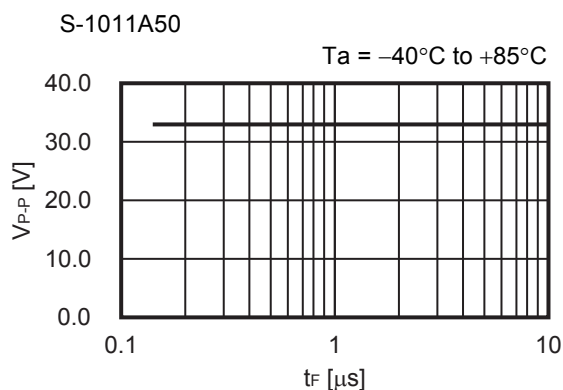

Figure 37  $C_N = 3.3 \text{ nF}$
Figure 37 and Figure 38 show the relation between  $V_{DD}$  amplitude ( $V_{P-P}$ ) and input voltage falling time ( $t_F$ ) where the arbitrarily set detection delay time accuracy can be maintained when the VDD pin (VDD detection product) sharply drops.
**Caution** Figure 37 and Figure 38 show the input voltage conditions which can maintain the detection delay time accuracy. If the voltage whose  $V_{P-P}$  and  $t_F$  are larger than these conditions is input to the VDD pin (VDD detection product), the desired detection delay time may not be achieved.